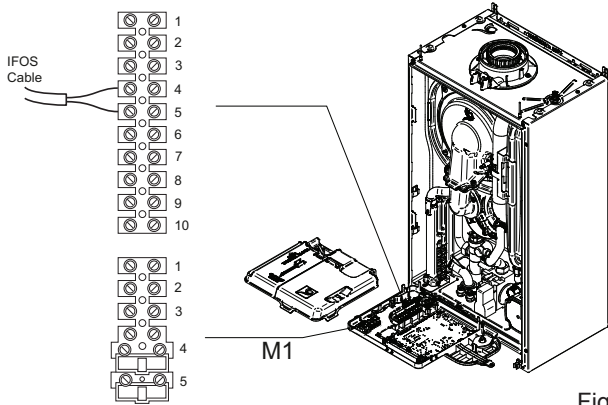

Fig. 29
2. Hinge down the control box and unclip the terminal block cover (Fig. 29).
3. Connect the IFOS cable to 4 & 5 of terminal M2 (Fig. 29).